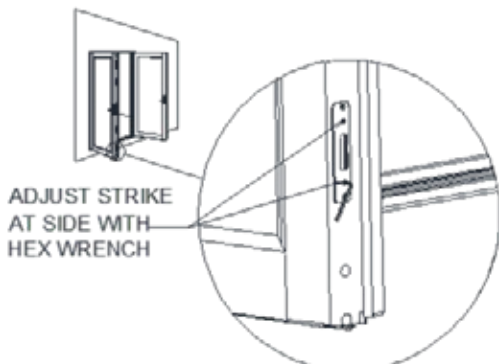

Figure 12
- 4. Use** a $1/8"$ hex wrench (not included) to perform the following adjustments. If a single door, adjust strike plates on the frame jambs. If a double door, open door and adjust the strike plates on the side of the inactive panel (Figure 12). Make adjustments until the Rhino hooks function correctly.